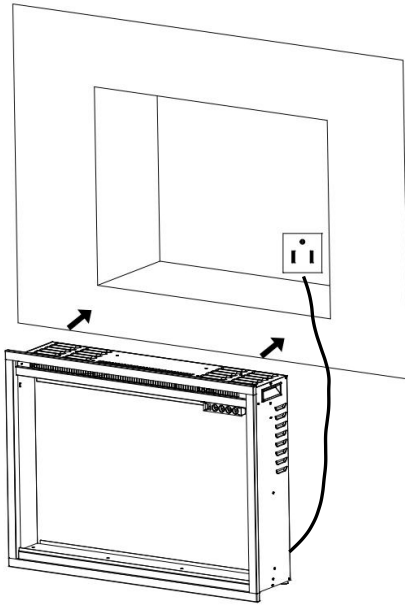
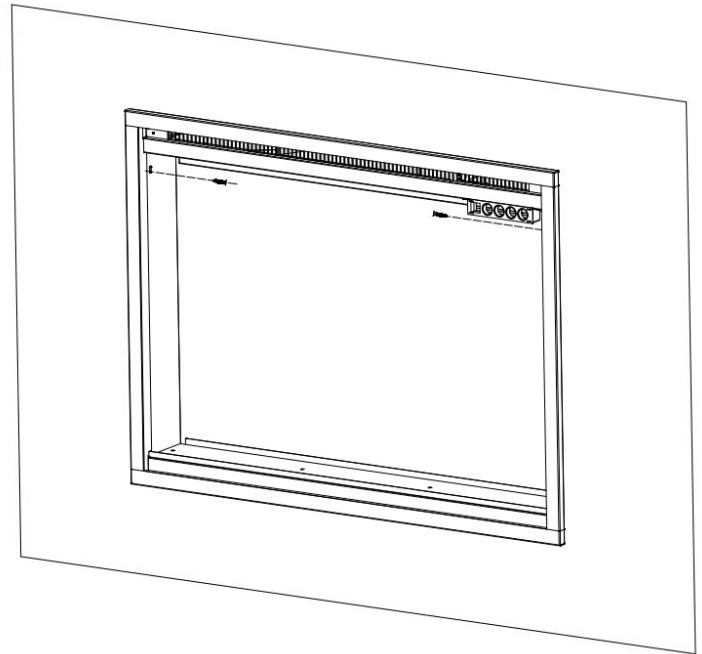

Fig. 2-1
Fig. 2-2
1. Power the fireplace by plug-into the wall receptacle. **Fig. 2-1**
2. Have two adult people to lift up the fireplace and insert it into the rough-in frame and then secure it by installing 2 wood screws (**B**) through the holes (**Fig. 2-1, Fig 2-2**).